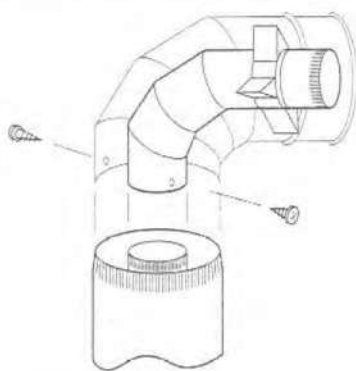

Figure 28
B. Locate the center of the vent outlet on the exterior wall. Cut and/or frame a 12" x 12" (305 mm x 305 mm) inside opening about the center. Install firestop (supplied with the termination) at outer surface with indicated "top" surface in up position. (Figure 28)
H. At transition to horizontal, the DST-90ELB/DST-45ELB elbows install in same manner as the straight sections. Where ceiling joists are present, extend vertical run through the firestop sufficiently to maintain required clearance to combustibles, described in A, on the horizontal run. Slip the internal elbow over the inner straight section. Apply high temperature sealant to joint. (Figure 28)